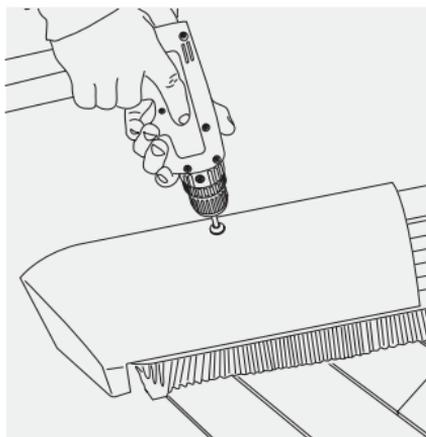

Fig. 61 – Fixing Third Round End Hip tile
- Fit a clay third round hip end tight against eaves tiles and trim the Block End if required. Fix Block End Hip tile through HipFast Hip Support Tray to hip batten using 75mm x 4.8mm screw and sealing washer provided. Tighten securely to ensure a firm seal (Fig. 61).